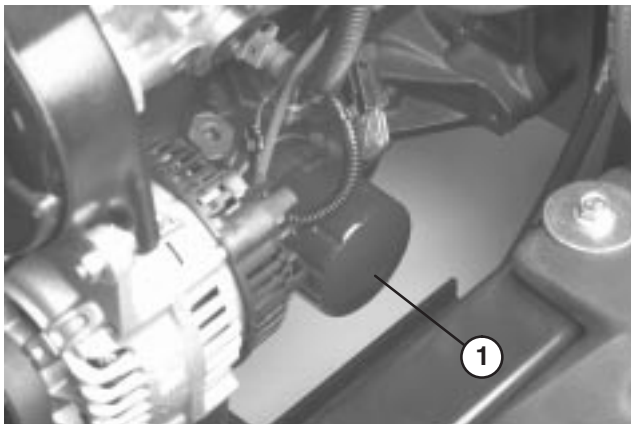

Figure 24
2. Remove oil filter (Fig. 24). Apply a light coat of clean oil to the new filter seal before screwing it on. **DO NOT OVER-TIGHTEN.**